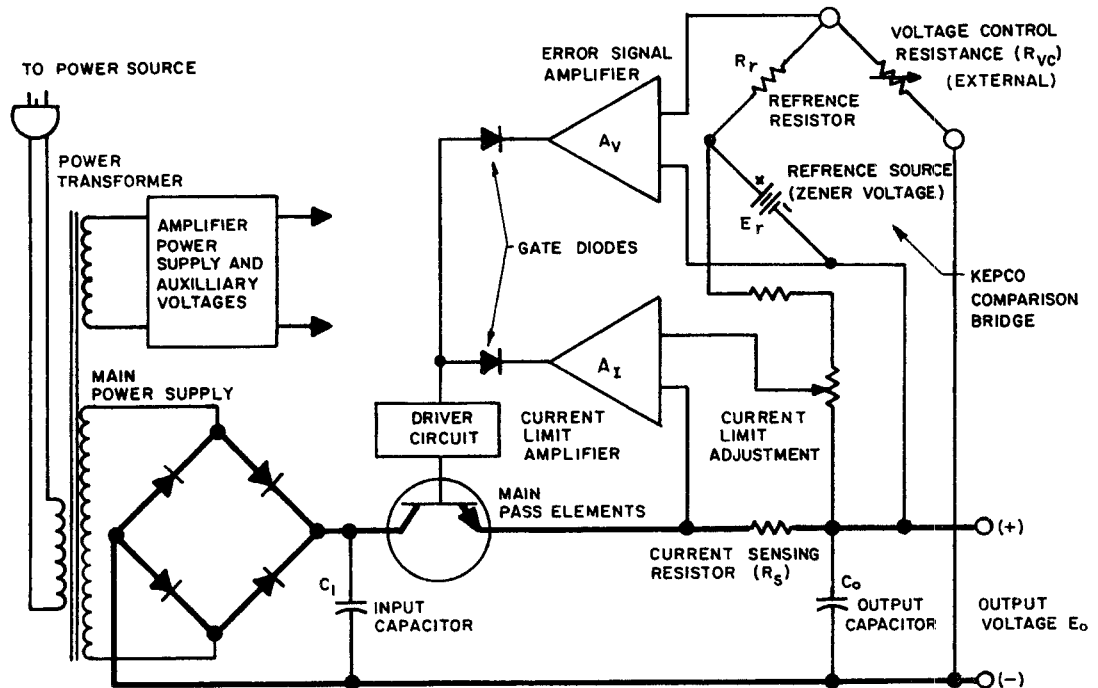

FIG. 4-1 SIMPLIFIED DIAGRAM, PAT POWER SUPPLIES.
(References in CAPITAL LETTERS refer to the nomenclature used in FIG. 4-1.)
4-1 SIMPLIFIED DIAGRAM DISCUSSION. (Refer to FIG. 4-1.)
- a) A-C INPUT CIRCUIT. A-C input power is introduced through rear barrier-strip TB1, terminals (1) and (2). Terminal (3) is connected to the chassis and should always be returned to a-c ground. The fuse (F1) protects the primary of the power transformer (T201) from excessive current. T201 has two primary windings which are connected either in parallel (for 115V a-c service) or in series (for 230V a-c service).
- e) **THE COMPARISON BRIDGE.** This 4-arm electrical bridge circuit is the regulating and controlling element in many Kepco Power Supplies. In the PAT models it consists of the reference voltage E_r (CR8), the reference resistor R_r (R15 and the optional bridge current adjustment rheostat R16), the voltage control resistance R_{VC} [either the optional internal control R13 or the resistor externally applied between terminals (11)–(12) on TB1], and the output voltage E_o . As shown in FIG. 4-1, the internal reference voltage E_r in series with the reference resistance R_r is continuously compared with the output voltage E_o in series with the voltage control resistance R_{VC} . At balance ($E_{AA'} = 0$), a constant bridge current I_b flows through the bridge, keeping the error signal at bridge terminals A–A' at approximately zero volts. Any deviation in E_o caused by a-c source, load variations, or other influences will tend to change I_b in the bridge circuit and thereby produce an error signal at the bridge terminals A–A'. This error signal is then amplified by the error signal amplifier A_V and acts as a control signal for the series regulator or pass element changing the voltage drop across it in such a way as to restore the previous output voltage level.